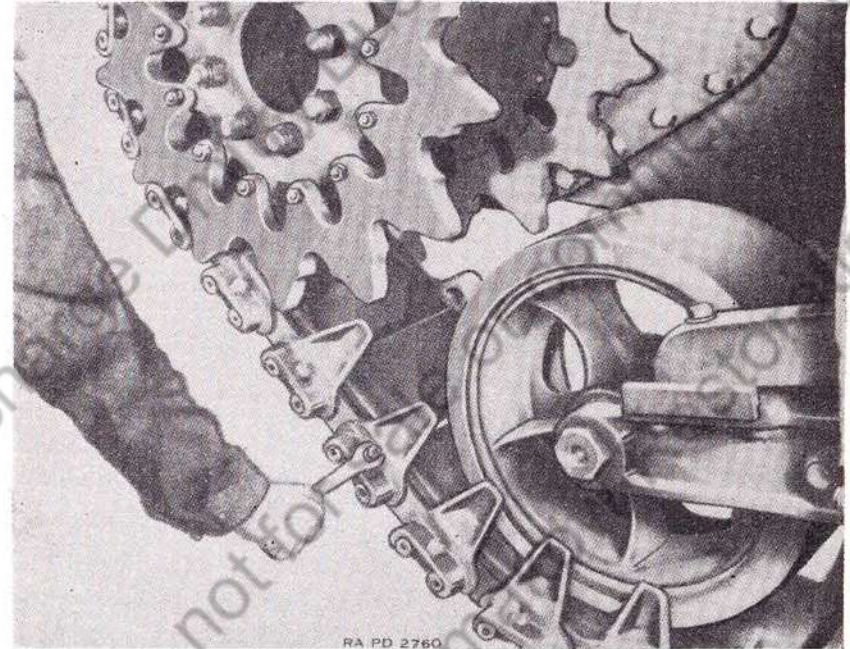
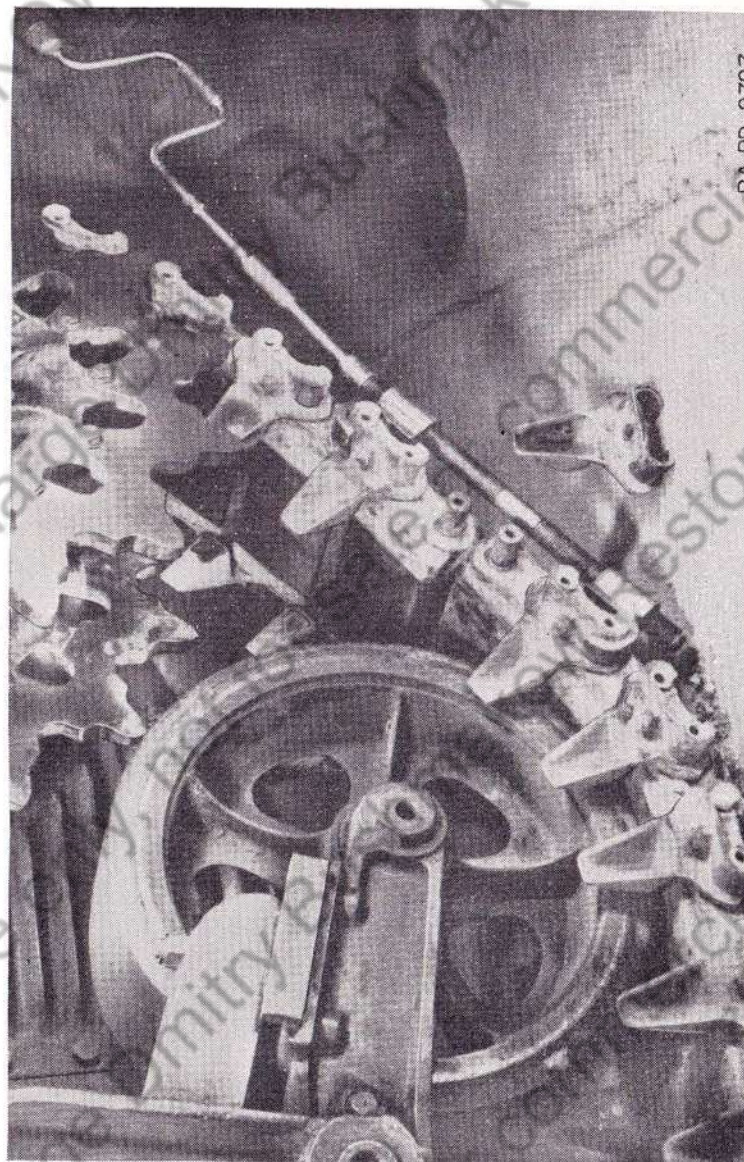
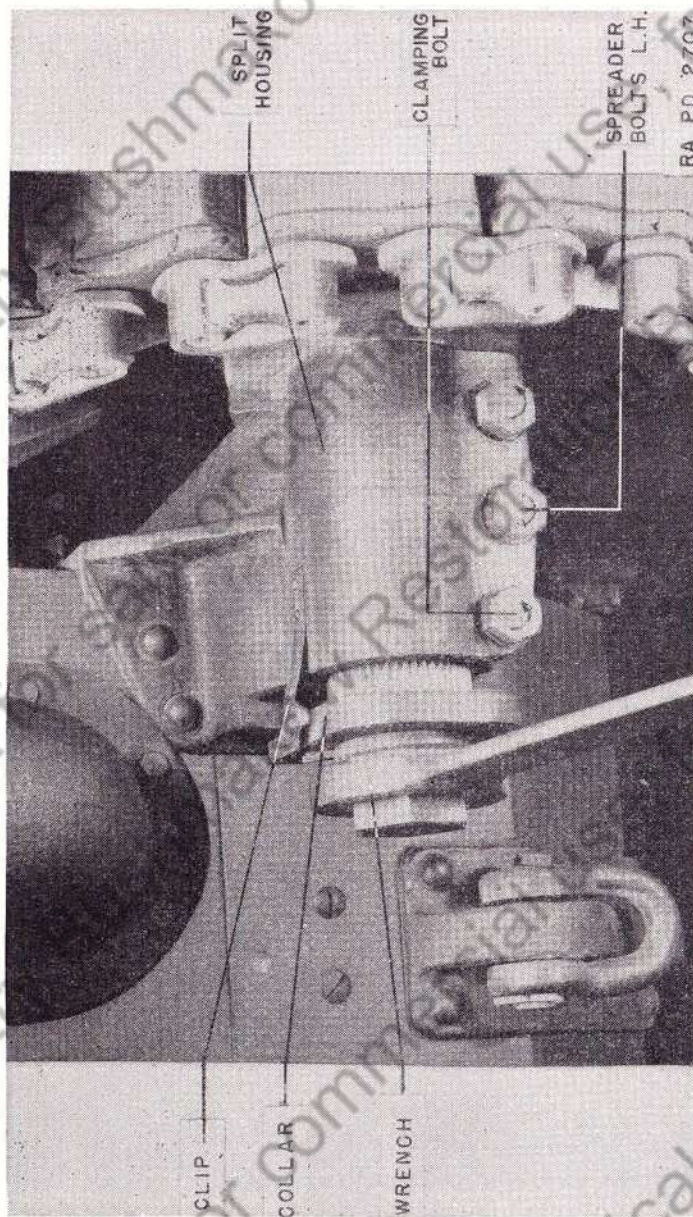
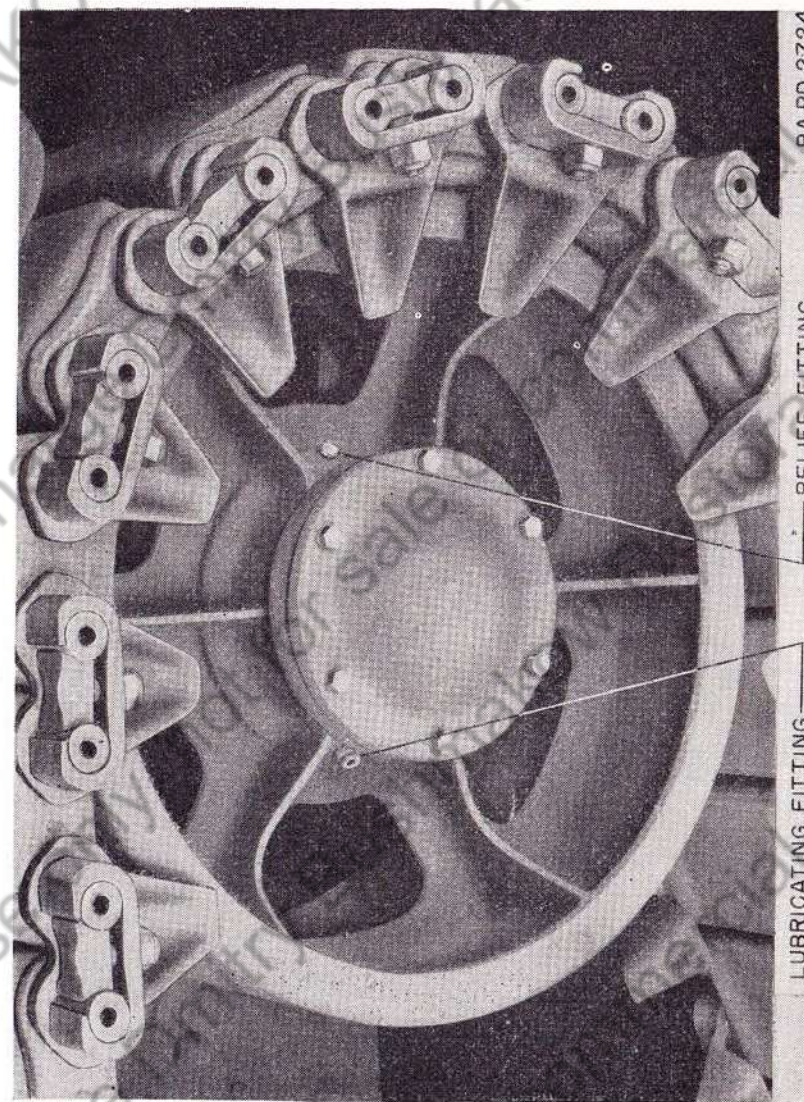

FIGURE 55.—Removing end connection from track.
FIGURE 56.—Assembly of track.
FIGURE 57.—Idle track adjustment.
FIGURE 58.—Track idler.
**97. Tracks.**—*a. Description* (fig. 55).—Most of the medium tank tracks are composed of rubber track shoe units, each assembled with two pins. The units are assembled into an endless track by the steel end connections which are secured to the ends of the pins by wedges. The steel end connections also serve as guides to keep the track in alignment with the bogie wheels, idlers, and drive sprocket. The outer ends of the connections serve as driving lugs and engage the teeth of the final drive sprocket. Some of the tanks are provided with rubber jointed tracks having a steel wearing surface of interrupted grouser design and an inside cushioning surface of rubber.
c. Removal of track (fig. 55).—(1) Make sure that tank is on level ground.
- (4) Remove connections as shown in figure 55.
- (5) Lower the bottom portion of the track to the ground.
- (6) Move the upper portion of the track to the rear over the drive sprocket and supporting rollers by means of a crowbar.
- (7) Push or pull the vehicle off the tracks.
*d. To replace track* (fig. 56).—(1) Lay the track on the ground in a trench at the tank and deep enough so that the bogie can ride onto track, and push or pull the vehicle on it so that the end of the track projects out beyond the front bogie wheel approximately 16 inches.
(2) Bring the other end of the track over the idler and track-supporting rollers to the drive sprocket.
(3) Take up the slack by revolving the drive sprocket forward with a long bar.
(4) Bring the end shoes together by means of a special jack hook until the guides, wedges, and nuts can be replaced as shown in figure 56.
(5) Adjust track as described below.
*e. To adjust track* (fig. 57).—(1) Loosen the two outside clamping bolts which hold the spindle of the eccentric cam in the split housing.
(2) Spread the split housing by turning the center bolt counterclockwise.
(3) Raise the clip at the end of the spindle.
(4) Drive the collar (plate) off the serrations of the spindle.
(5) Adjust the idler by turning the hex end of the spindle shaft.
(6) When the track is adjusted, slide the collar back onto the serrations of the spindle and lock it with the clip. Release the center bolt by turning it clockwise and tighten the two outside bolts.
**98. Idlers.**—*a. Description* (fig. 58).—Two large steel idler wheels are mounted on the end opposite the driving sprockets to support the tracks. They are provided with an eccentric adjustment for the purpose of adjusting the tension of the tracks.